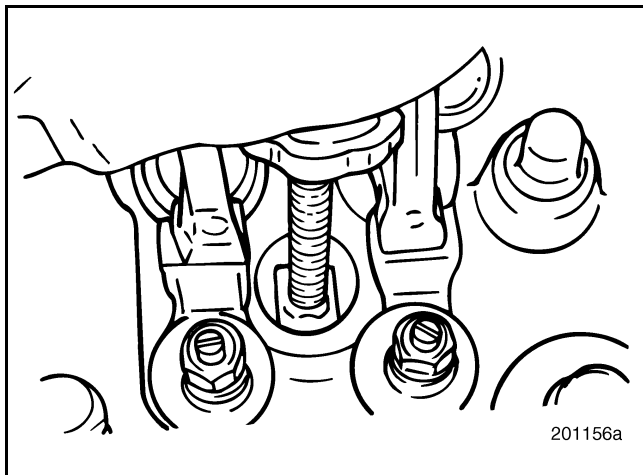

Figure 374 — Nozzle Holder Installation
- After ensuring that the nozzle holder locator pin is properly aligned with the alignment notch in the nozzle holder sleeve, push downward on the handle of the installation tool driving the nozzle holder into position. Refer to Figure 374.